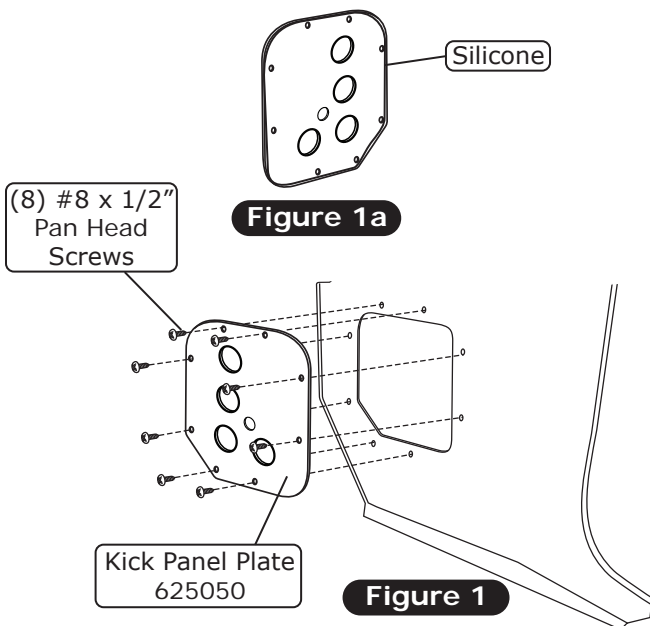

Figure 1
4. Install the kick panel plate onto the kick panel opening using (8) #8 x 1/2" pan head screws as shown in Figure 1, below.